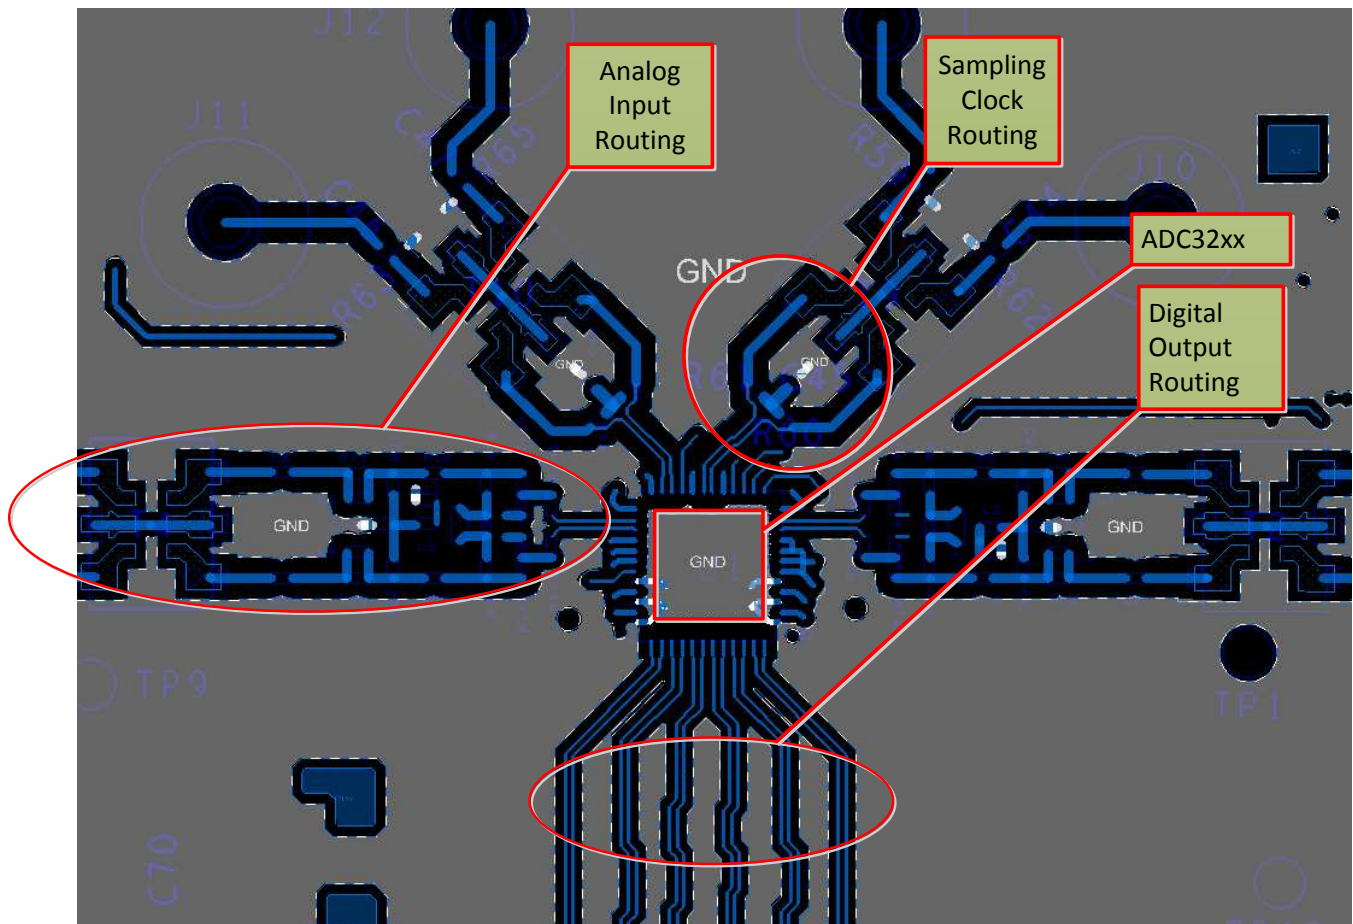

Figure 180. Typical Layout of the ADC322x Board
The ADC322x EVM layout can be used as a reference layout to obtain the best performance. A layout diagram of the EVM top layer is provided in Figure 180. Some important points to remember during laying out the board are:
1. Analog inputs are located on opposite sides of the device pin out to ensure minimum crosstalk on the package level. To minimize crosstalk onboard, the analog inputs must exit the pin out in opposite directions, as shown in the reference layout of Figure 180 as much as possible.
2. In the device pin out, the sampling clock is located on a side perpendicular to the analog inputs in order to minimize coupling between them. This configuration is also maintained on the reference layout of Figure 180 as much as possible.